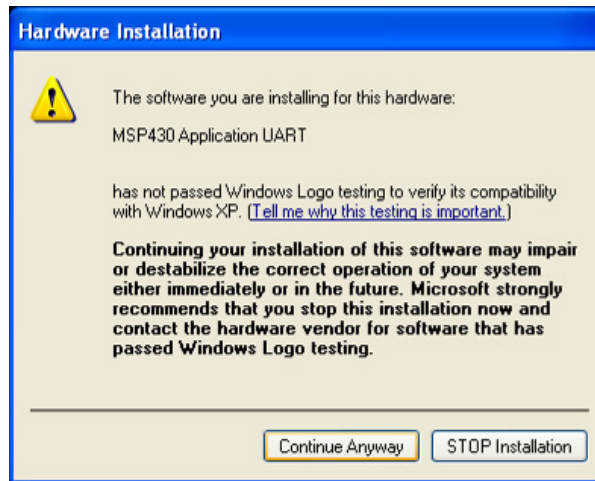

Figure 18. Windows XP Warning
8. The Wizard should find the appropriate driver for a Windows XP system; it shows a warning that Microsoft did not certify the driver. The drivers have been tested exhaustively, and this warning may be ignored. Click **Continue Anyway** (see Figure 18).